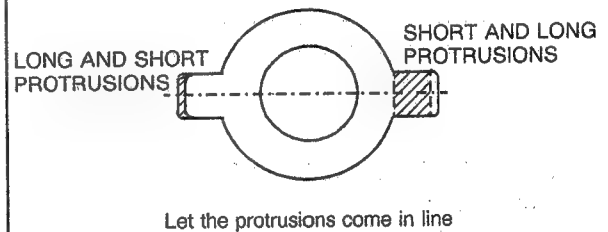

Fig.B-2
2. Let the purity tabs come in line horizontally as is shown in Fig. B-2. A long tab should be in the same direction as the other short tab.